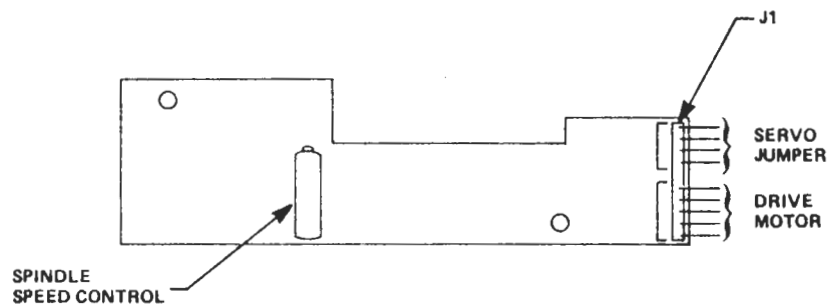

Figure 2-2
- 2.1.1.6 Adjust R4, located on the Servo PCBA, until the applicable pattern on the pulley appears stationary (see Figure 2-2).